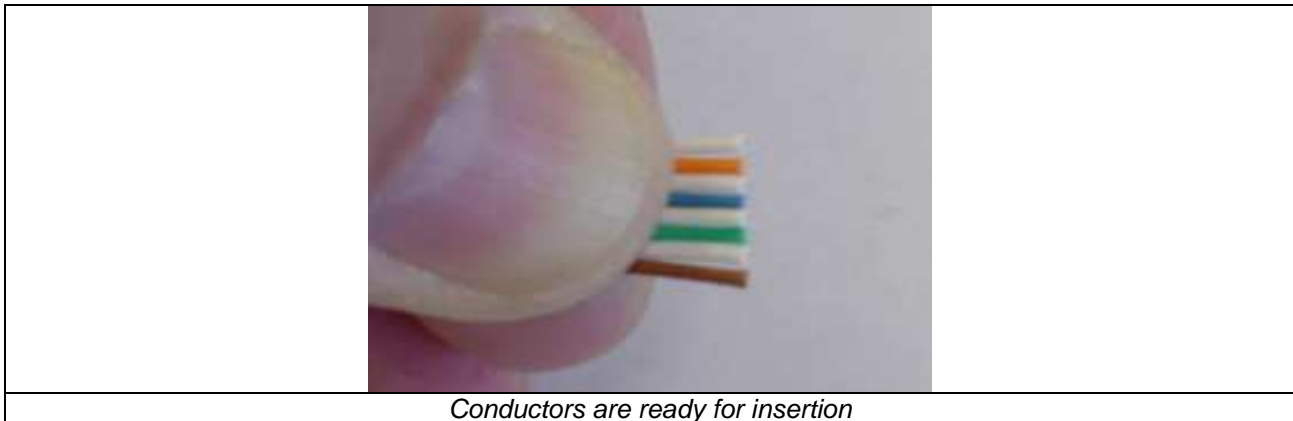

Figure 6
3. While firmly holding the positioned pairs, make a preliminary cut to the pairs to help the insertion of the conductors into the wire holder. See Figure 6.